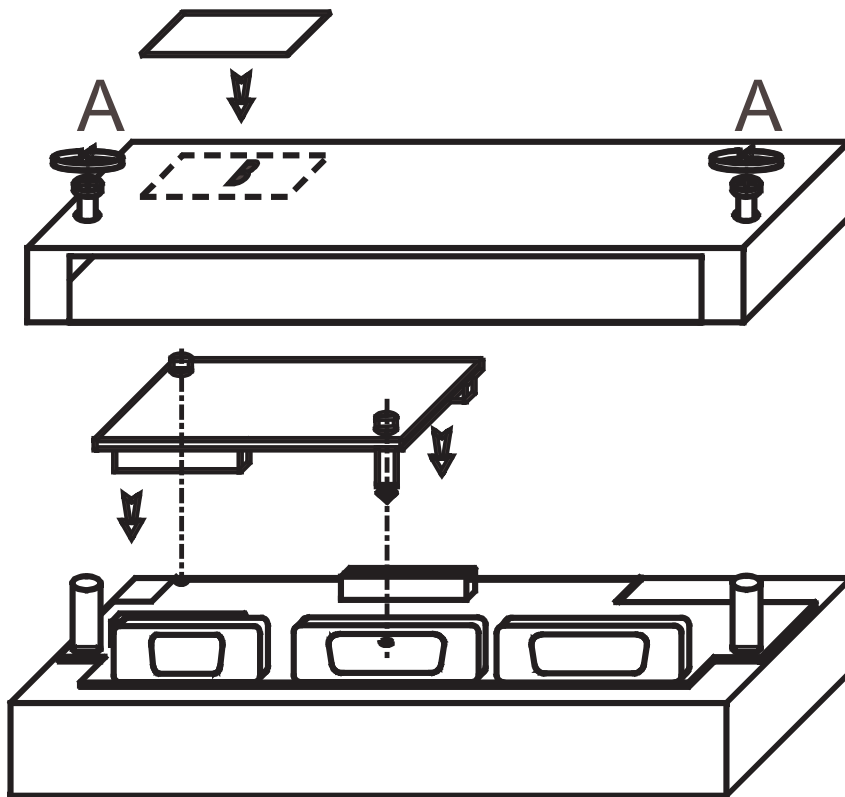

Fig. 24 - Mounting the communication modules
- 2) partially unscrew with a screwdriver the 2 screws holding the rear cover. The screws are labelled "A" in figure 24.